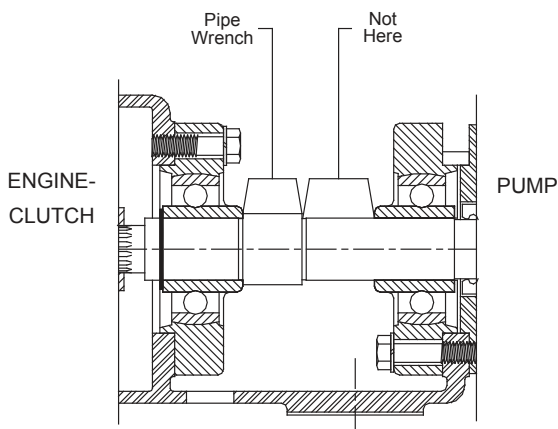

FIGURE 7
1. To clean pump impeller (3), loosen the two victaulic pipe clamps and remove the suction pipe assembly. The eye of the impeller can then be seen through the suction cover plate (1) and is readily accessible for cleaning.
2. For further access to the impeller, remove the eight bolts (5B) holding the cover plate (1) in place. Remove suction cover plate, being careful not to damage the O-Ring gasket (2).
3. To remove the impeller take the impeller wrench, which is stored in the tool box, and position it so the hole is aligned with any of the eight tapped holes in the front of the pump casing (5). The 90° leg of the wrench should face in towards the impeller and be positioned between any two of the impeller fins. Bolt the wrench securely in place with one of the suction cover plate bolts (5B). Using a pipe wrench on the shaft (9) (See Figure 7 below), unscrew the impeller turning the shaft in a clockwise direction. Be careful not to unscrew the impeller too far before removing the puller wrench.